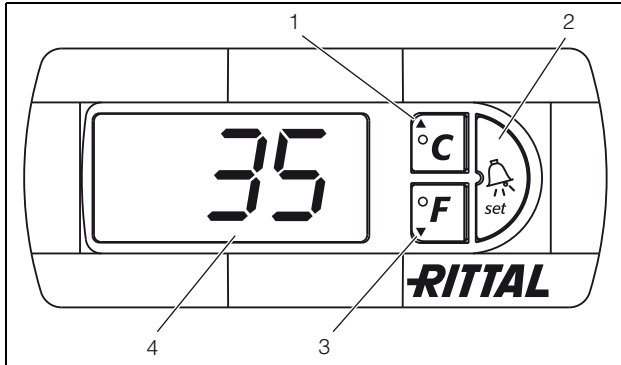

Fig. 15: Controller
The controller has a 7-segment display (fig. 15, no. 4, page 14 ). After switching on the power supply, the current software version initially appears on this display for approx. 2 seconds.
The current enclosure internal temperature is usually displayed permanently. In the event of an error message, this will alternate with the temperature display. The unit is programmed using buttons 1 – 3 (fig. 15). The relevant parameters also appear in the display.
- Simultaneously press buttons 1 and 2 (fig. 15) for at least 5 seconds.
Using buttons 1, 2 and 3 (fig. 15) you can change 24 parameters within the preset ranges (min. value – max. value).